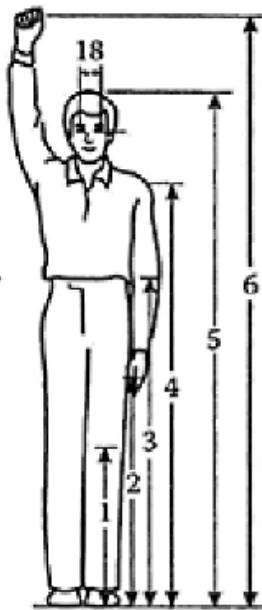

Figure 1
- Q.5 (a) Name the anthropometric measures (no. 1 to 6 and 18) illustrated in figure 1 and mention their significance. 07